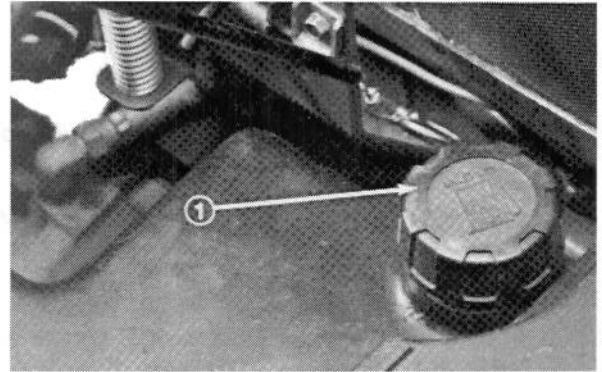

Figure 3
2. Remove the cap from the fuel tank (Fig. 3) and fill the 8-1/2 gallon (30 L) tank to within 1 inch (25 mm) from the top with diesel fuel. Install the fuel tank cap tightly after filling the tank.